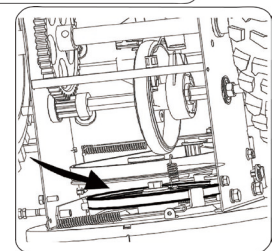

Figure 30
4. Slip the drive belt off the pulley and between friction wheel and friction wheel disc. See Figure 30.